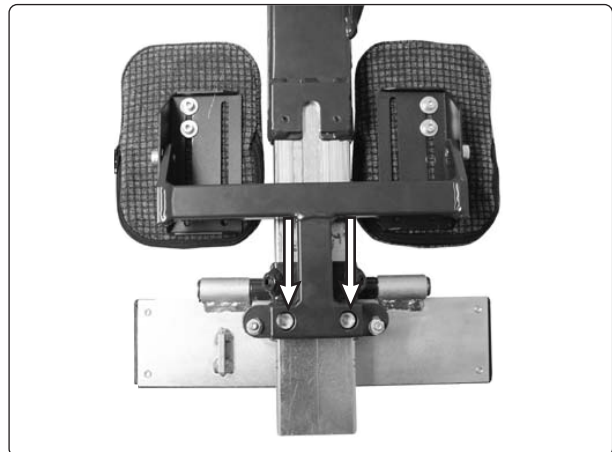

Fig. 25. The calf rest is mounted with two screws.
4. Unscrew and remove the calf rest's bracket. It is mounted using two screws on the back side of the leg rest, see Fig. 25.